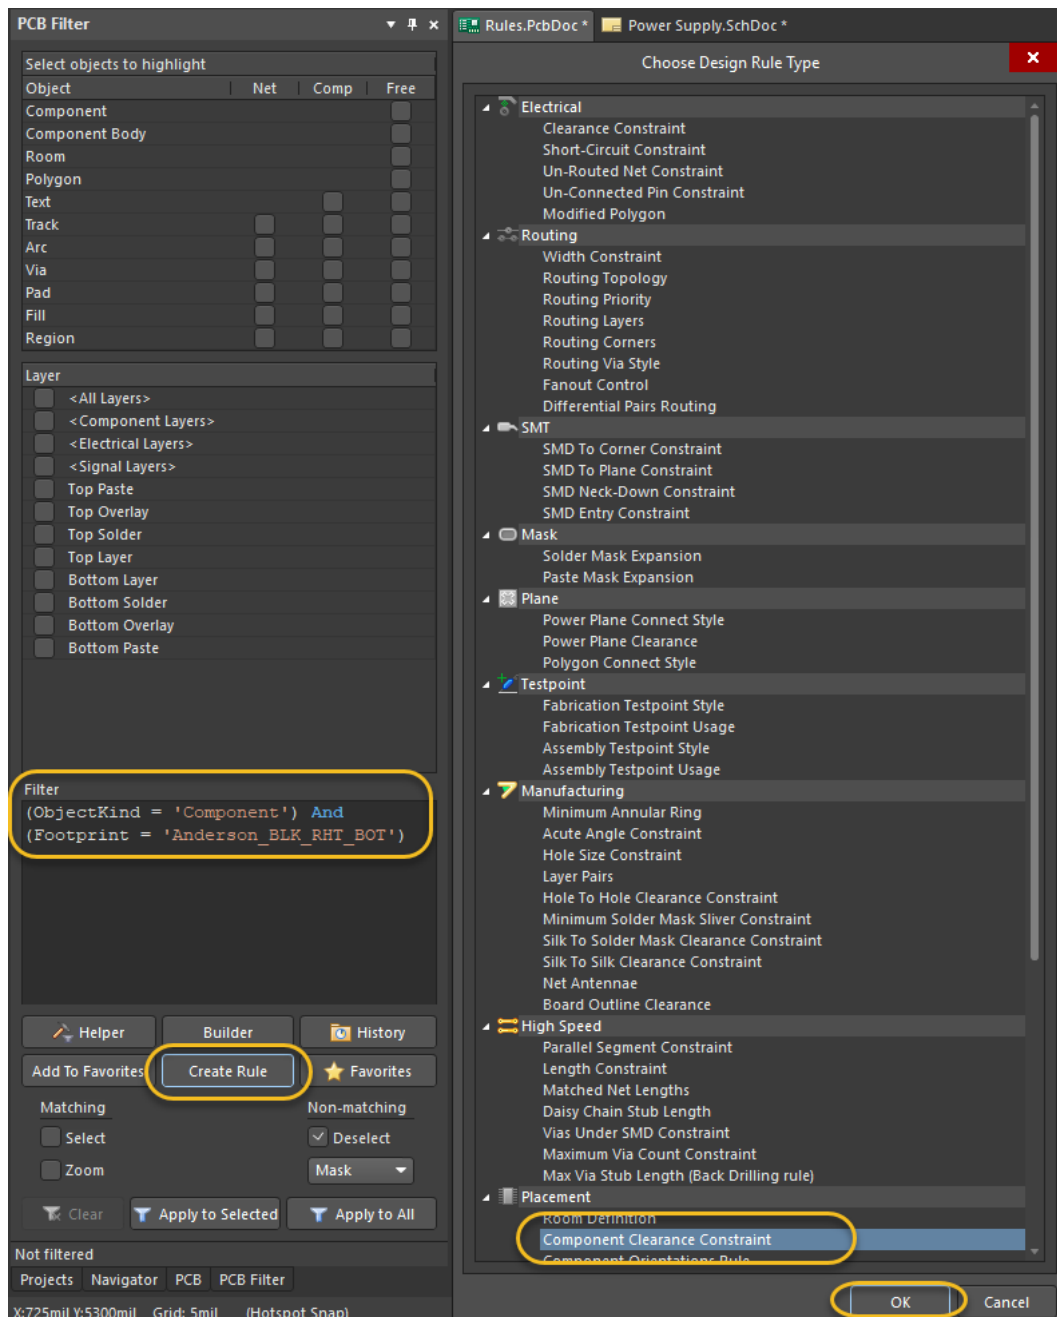

Figure 10. Creating a Clearance Rule from the PCB Filter panel
30. Within the *PCB Filter* panel, click on **Create Rule** near the bottom of the panel as shown in Figure 10.